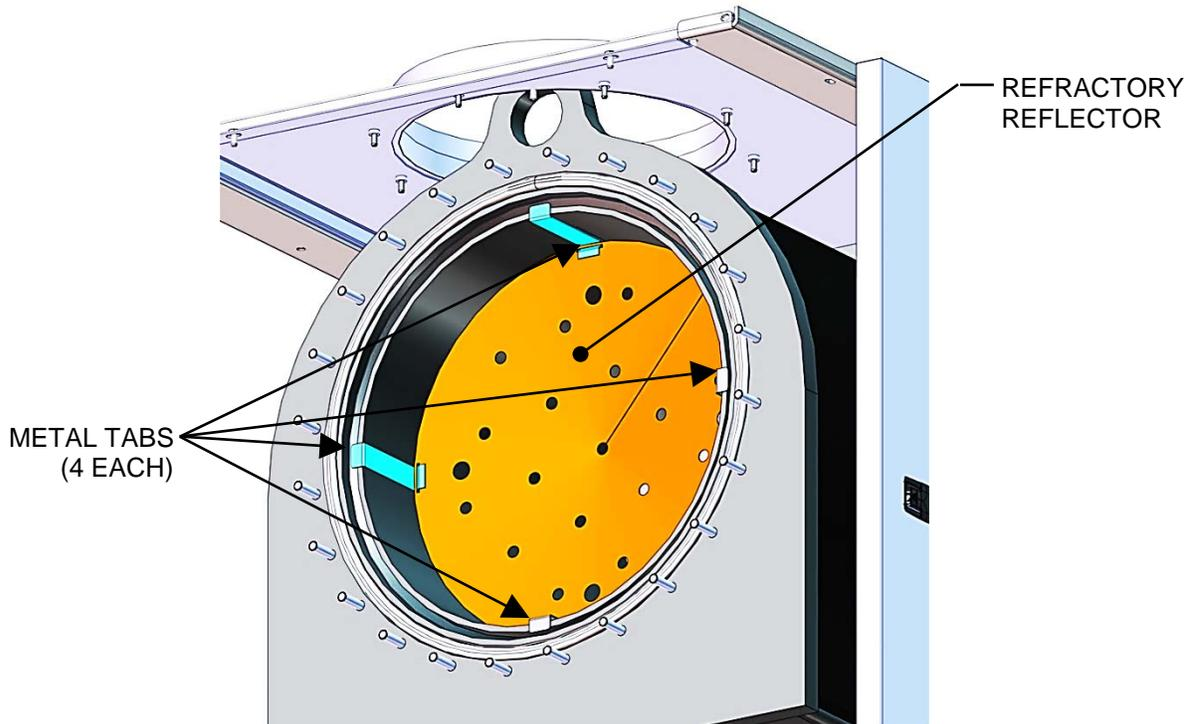

Figure 7-8: Partial Rear View – Rear Plate and Refractory Removed
11. Refer to Figure 7-8 and note the position of the rear refractory. Prior to refractory removal, mark as necessary using a permanent marker or tape.